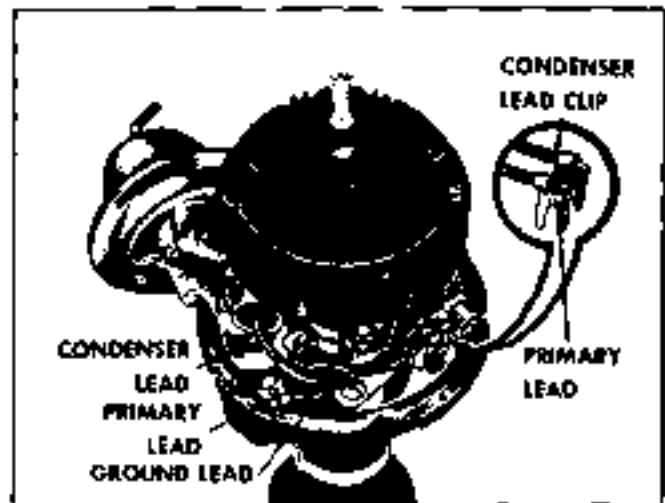

Fig. 6E-29 Arrangement of Leads
DISASSEMBLE (Fig. 6E-30)
1. Remove rotor by removing two attaching screws, lockwashers, and flatwashers (Fig. 6E-30).